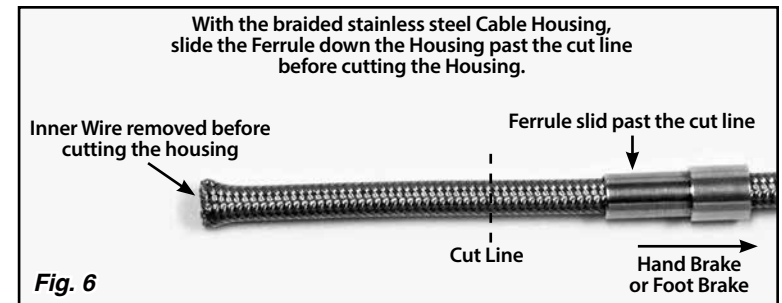

Fig. 6
Step 6: It will be necessary to shorten the new connector cable housing. **Make sure the inner wire is removed from the cable housing!** Mark the cable housing where it lines up with the cable adjuster. If the cable housing is braided stainless steel, slide the ferrule up the housing towards the dash, away from the end being cut. **DO NOT remove the ferrule if the cable housing is braided stainless steel! Fig. 6**